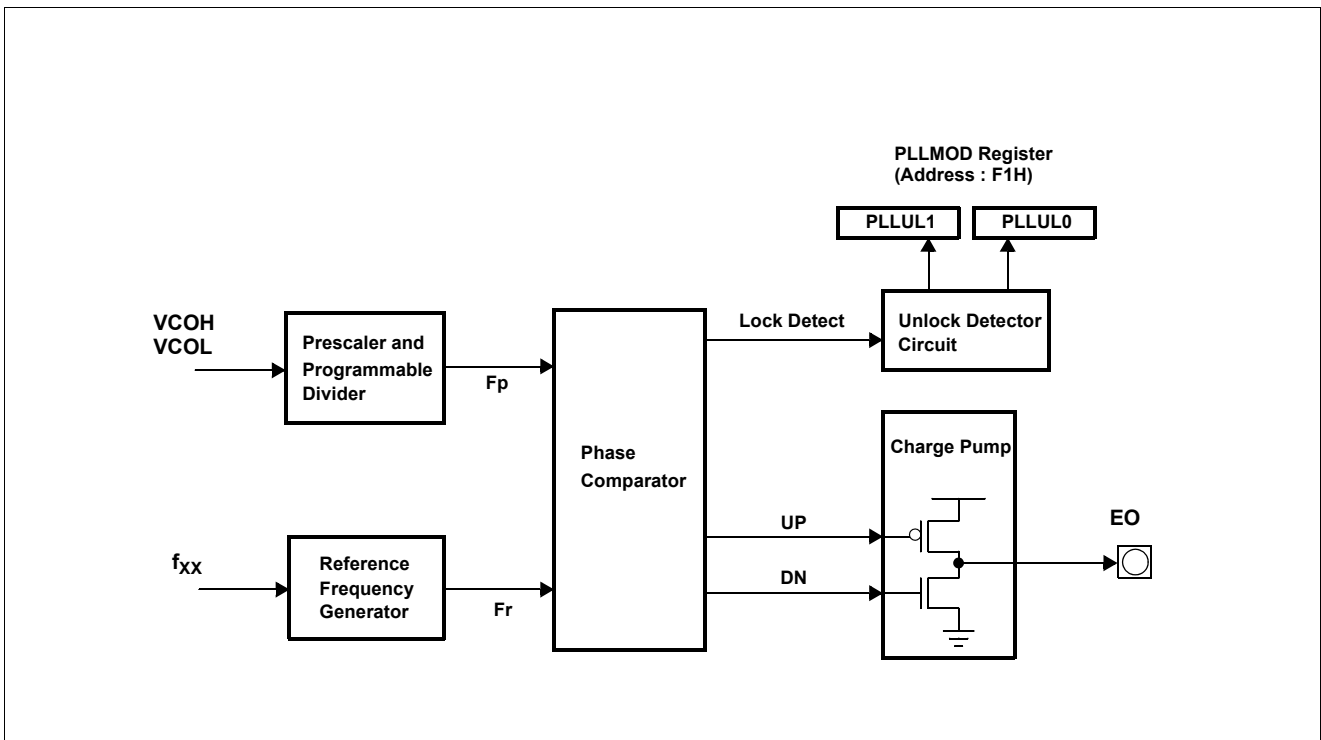

Figure 3-41 Phase Comparator, Charge Pump and Unlock Detector Circuit Configuration
Figure 3-41 shows the phase comparator, charge pump and unlock detector circuit configuration. The phase comparator compares the phase of frequency division output f_N from a programmable divider and that of reference frequency output f_r from a reference frequency generator and outputs up request (UPB) and down request (DWB) signals. The charge pump outputs the output of the phase comparator from error output pin (EO). The unlock detector circuit consisting of unlock flip-flop detects the unlock state of a PLL frequency synthesizer. .
As shown in Figure 3-41, the comparator compares the phase of frequency division output “ f_N ” from a programmable divider and that of reference frequency output f_r from a reference frequency generator and outputs up request (UP) and down request (DN) signal. The UP signal is activated to low if divided frequency f_N is higher than reference frequency f_r . The DN signal is activated to high if the former is lower than the latter.
As shown in Figure 3-41, the charge pump outputs the UP and DN signal from a phase comparator from error output pins.
As shown in Figure 3-41, the unlock detector circuit detects the unlock state of a PLL frequency synthesizer using the up and down request signals from a phase comparator.